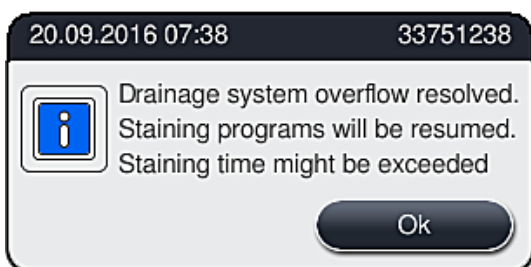

Fig. 118
5. Close the instrument cover and confirm the message (→ "Fig. 118") by pressing "OK".